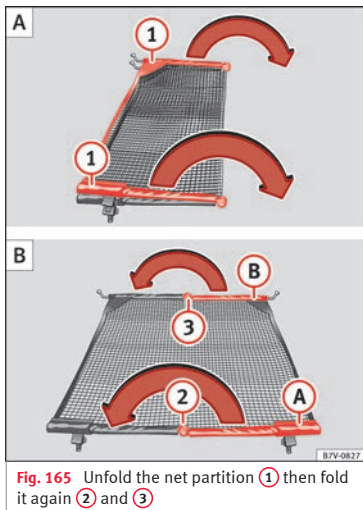

Fig. 165 Unfold the net partition ① then fold it again ② and ③
Fold out the cross support rods » **Fig. 165** ① for the net partition fully in the direction of the arrow until you hear a “click”.
- Press on the release button »» Fig. 165 ② and bend the rod (A) in the direction of the arrow with the release button pressed.
- Press on the release button »» Fig. 165 ③ and bend the rod (B) in the direction of the arrow with the release button pressed.